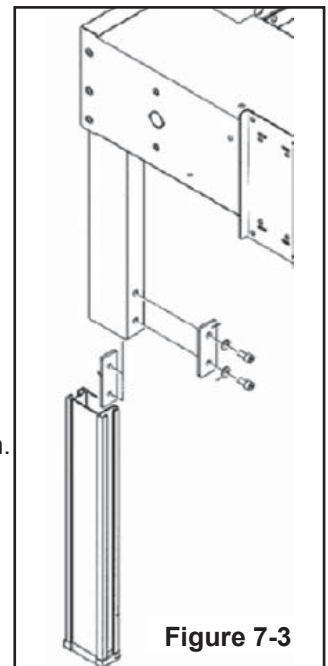

Figure 7-3
- 2 - Adjust machine bed height. The case sealer is equipped with four (4) adjustable legs that are located at the corners of the machine frame. The legs can be adjusted to obtain different machine bed heights (**Figure 7-3**). Also refer to the "Specifications" section.